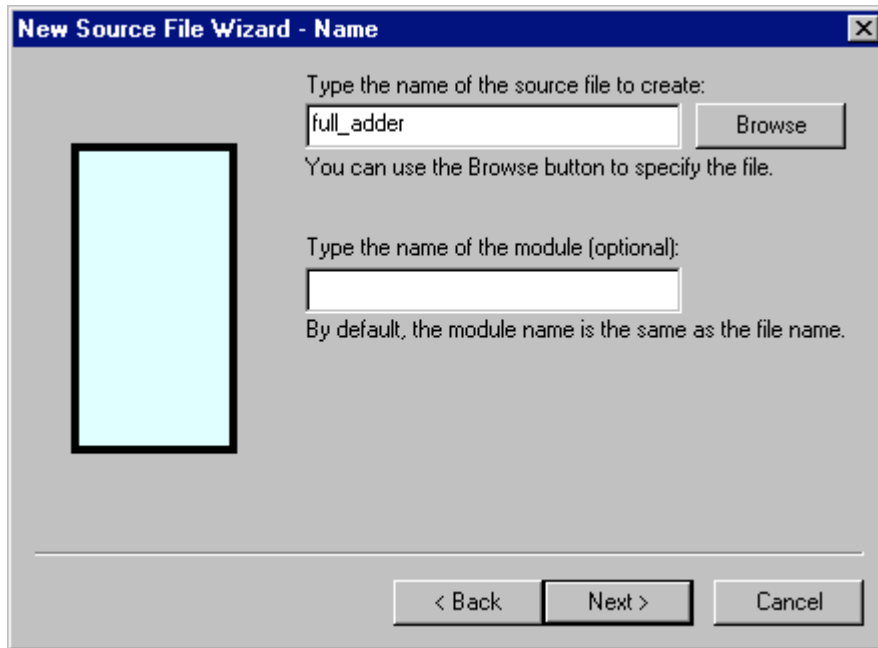

Figure 11
5. In the “Type the name of the source file to create” field, enter the name of your schematic design. Use **descriptive** names. Do not use the same name that you named your design or workspace. Also, **do not use a different name for the module**; leave this field blank. Active-HDL will use the source files name for the module by default. Click the Next button. (See Figure 11)